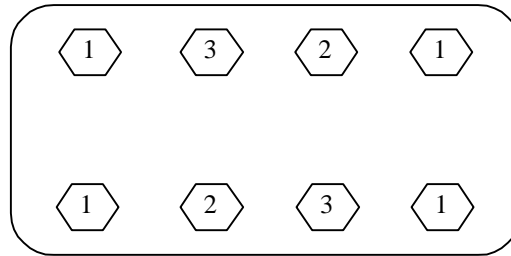

Figure 5-3: Nut Loosening Sequence for Removing Clamp Plate from High Pressure Assembly.
4. Using the 24 mm socket (or 15/16" socket) and 1/2" breaker bar, remove the eight 24 mm Nuts from the Clamp Plate (Figure 5-2), being careful to remove the load on the Tie Rods evenly. Break loose the Nuts at the ends of the Clamp Plate first, then use a crisscross pattern when breaking the remaining four Nuts loose (Figure 5-3). Using the same pattern, back each Nut off 1/2 turn until the load is removed from the Tie Rods.